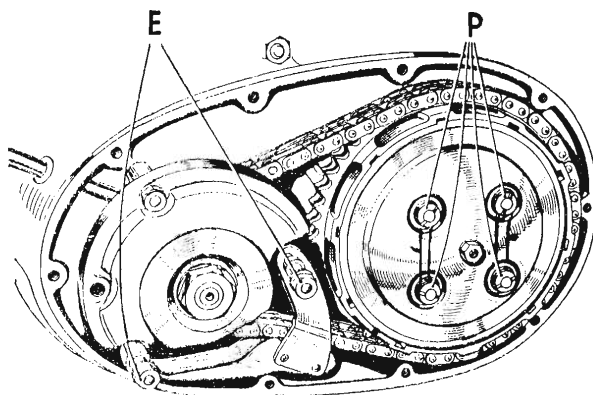

FIGURE 20. The primary chain and clutch.
When the two lower generator retaining nuts (E) Fig. 20 are slackened, the position of the slipper can be altered to give the correct tension.
Whenever the clutch has been dismantled, the spring pressure must be reset carefully. The four retaining nuts (P) FIG. 20, should be screwed in until the underside of the head of each nut is approximately 1/16" from the face of a spring cup. The figure is an arbitrary one and it is a simple matter to vary it according to circumstances. If the springs are compressed excessively, the handlebar lever will be stiff to operate and tiring to the hand; alternatively, if the spring pressure is insufficient, the clutch will tend to slip.